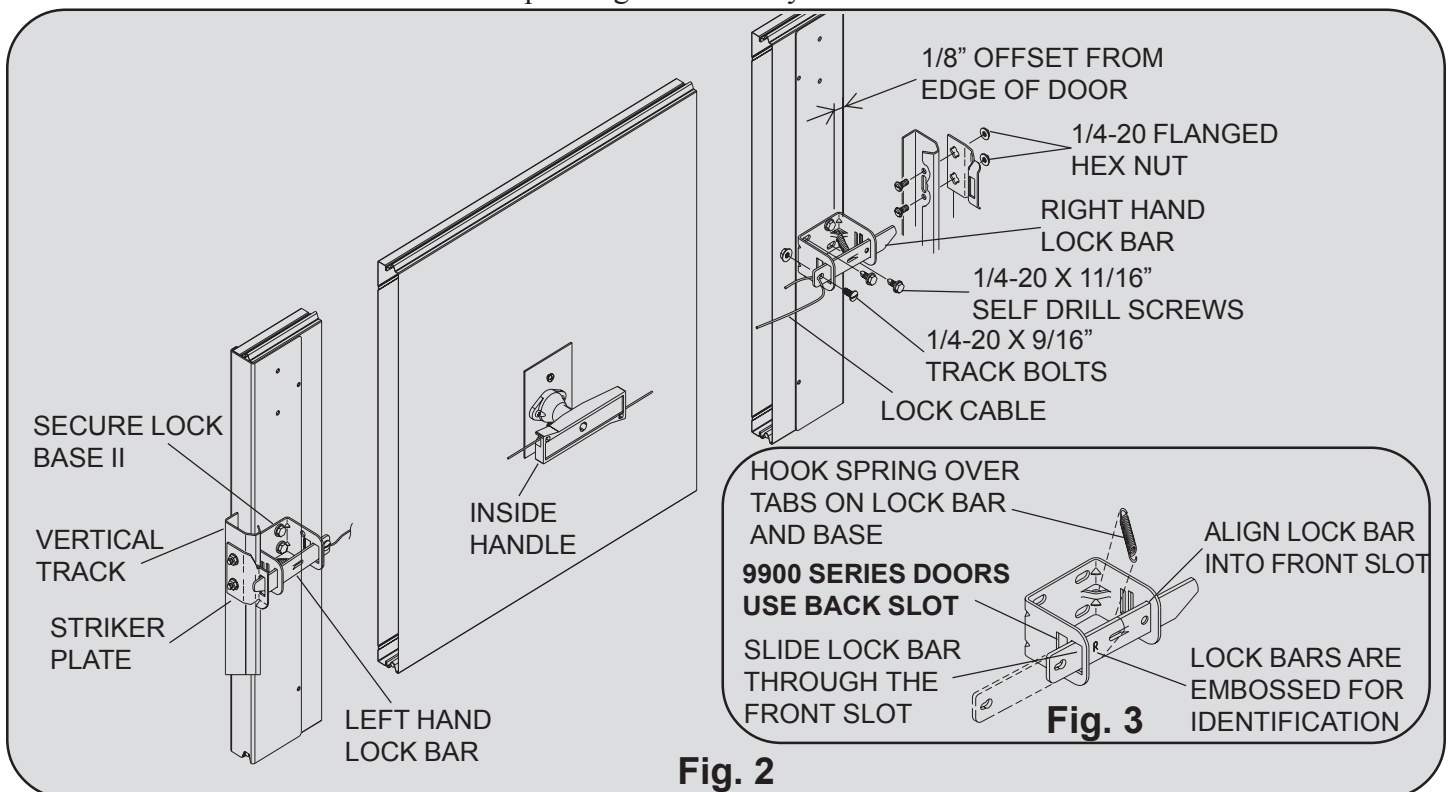
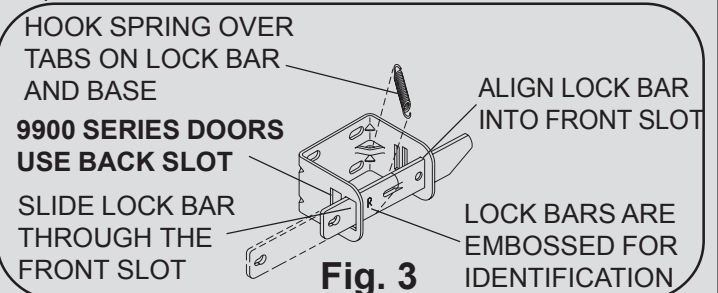

Fig. 2
Fig. 3
8300/8500 Series & Wood doors (see Fig.2), place the lock section face up on (2) padded sawhorses for a single car door or (3) padded sawhorses for a double car door. Locate the middle of the center stile, measure the distance from the end of the section to the middle of the center stile. Turn the section face down, transfer the measurement and mark a light vertical line, then mark a horizontal line at half the section height. Align the 7/16" diameter hole of the lock backup plate at the intersection point of the horizontal and vertical marks, use the lock backup plate as a template to mark the (3) holes, remove the lock backup plate and drill (3) 3/4" diameter holes through the section.
9000 Series doors (see Fig.3), place the lock section face up on (2) padded sawhorses for a single car door or (3) padded sawhorses for a double car door. Locate the middle of the center stile, measure the distance from the end of the section to the middle of the center stile. Turn the section face down, transfer the measurement and mark a light vertical line. Align the center of the lock stile with vertical mark, use the lock stile as a template to mark the (3) holes, remove the lock stile and drill (3) 3/4" diameter holes through the section.
Locate the secure lock striker plates over the pre-punched holes in the vertical track nearest the center of the lock section (see Fig.2). Fasten the striker plates to the vertical track using (2) 1/4-20 x 9/16" track bolts and flanged hex nuts. Lock bars are embossed "R" for right side and "L" for left side. Place the lock bars into the slots in the secure lock base (see Fig. 3). Attach the springs to the tabs on the base and the lock bar. Position the end of the right lock bar into the slot in the right striker plate. Move the base of the secure lock back 1/8" from the edge of the section. Attach the secure lock to the section with (4) 1/4-20 x 11/16" self drilling screws. Repeat for the left side. Feed one end of the lock cable through the slotted hole of a lock bar and secure with (1) 1/4-20 x 9/16" track bolt. Pull the cable taut, but not enough to pull the lock bar out of the striker plate. While holding taut, feed the lock cable through the slotted hole of the remaining lock bar, secure with (1) 1/4-20 x 9/16" track bolt and flanged hex nut.